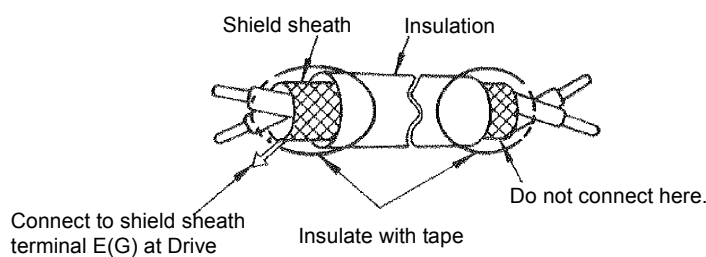

Fig 2.7 Preparing the Termination of Shielded Twisted-pair Cables
4. Use twisted-pair or shielded twisted-pair cables for control circuits to prevent operating faults. Prepare cable ends as shown in *Fig 2.7*.